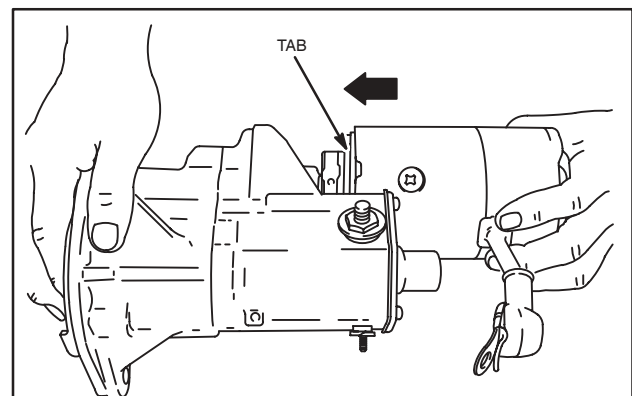

Fig. 77 – Installing Starter Motor
4. Assemble starter motor to drive housing. Align tab on starter with notch in drive housing, Fig. 77.